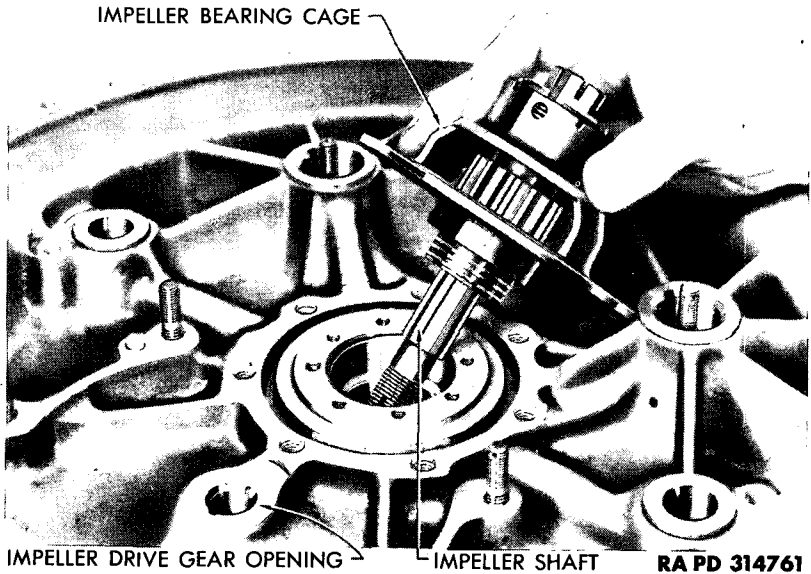

Figure 151 – Removing Bearing Cage
e. **Remove Impeller Bearing Cage.** With screwdriver, take out seven slotted screws that hold impeller bearing cage to diffuser section (fig. 150). Lift out cage assembly (fig. 151). Oil seals, rings, and shims ordinarily will come out with cage. If they do not, remove them from cage. Remove gasket.